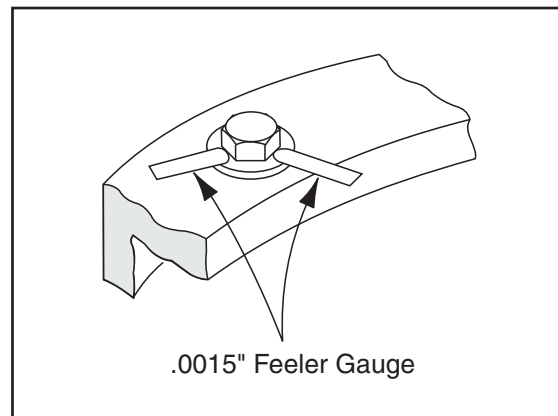

Figure 2-17. Swing Bearing Bolt Feeler Gauge Check
2. At the positions indicated on Figure 2-17., Swing Bearing Bolt Feeler Gauge Check, try and insert the 0.0015" feeler gauge between the bolt head and hardened washer at the arrow indicated position.
2. At the positions indicated on Figure 2-17., Swing Bearing Bolt Feeler Gauge Check, try and insert the .0015" feeler gauge between the bolt head and hardened washer at the arrow indicated position.
4. At the position indicated on Figure 2-17., Swing Bearing Bolt Feeler Gauge Check, try and insert the